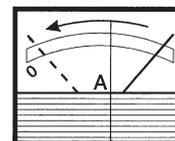

fig. 3
- 3.3.2. Check the current delivery to the battery by reading the ammeter on the front of the battery charger. During charging the pointer on the ammeter will slowly move to the left according to the capacity and condition of the battery (see fig. 3, meter face may vary according to model).